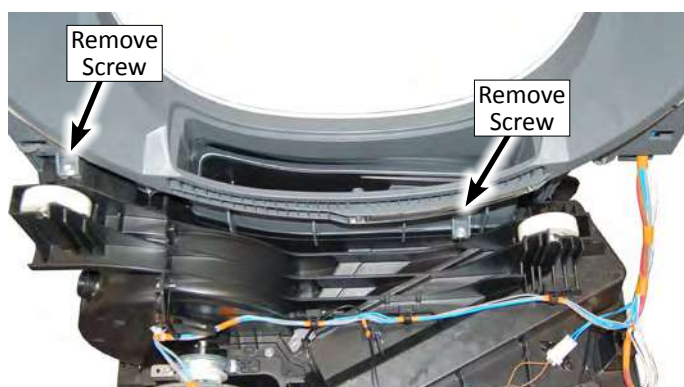

Figure 1
10. Remove the two 7 mm screws securing the front bulkhead to the base assembly (see Figure 1 below).